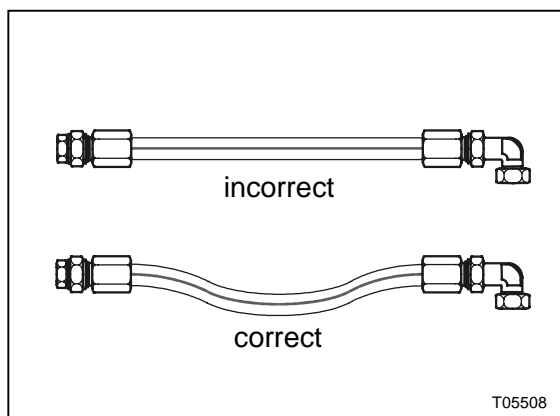

Figure 3: Hose stretching
- 2) Replacement hoses should be installed free of strain, twist or torsion. Avoid acute bending and stretching (see Figures 3, 4 and 5).